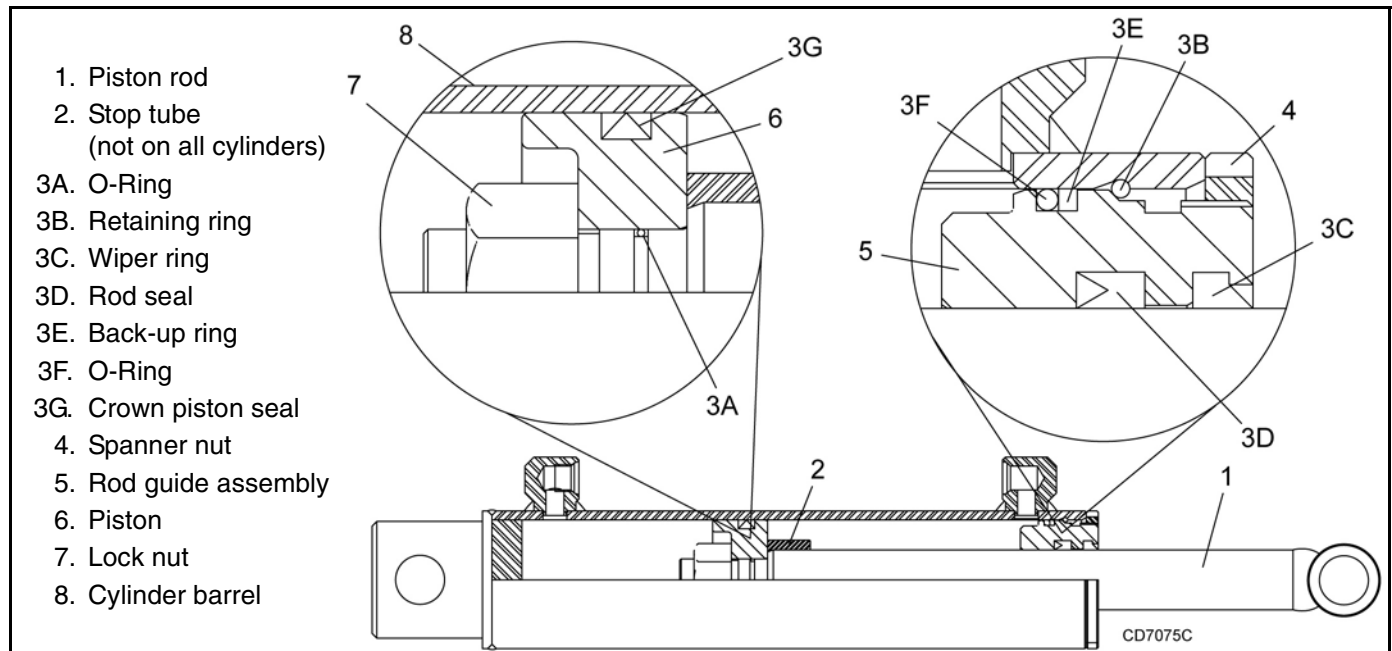

Figure 8. Spanner Nut Cylinder Assembly
Lightly coat rod threads with hydraulic oil and slide O-ring (3A) over threads and into groove. Install stop tube (if equipped) and piston (6) onto rod (1) as shown in Figure 8. Completely clean threads of hydraulic oil, apply Locquic® Primer 7649 and Loctite® 242 to the rod threads, and install lock nut (7). Torque to 175 lbs-ft.